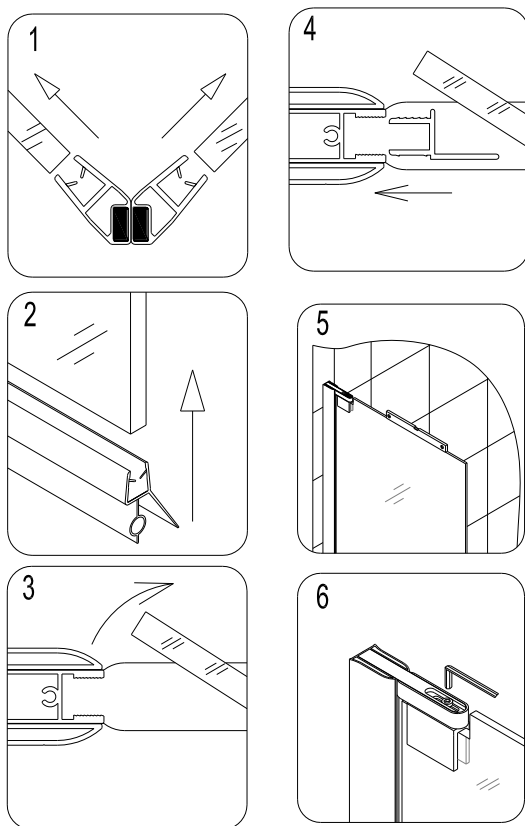

Fig. 9
9. Push the **Magnetic strips (9)** on the edges of the return glass and the swing door, the **Anti-water strip (10)** – inside the glass profile channel and the **Bottom anti-water strip (11)** on the bottom of the door. Make sure the glass door is leveled and plumbed and then tighten up the **Hex socket round head bolt M6x12 (27)**. See Fig. 9 for details.